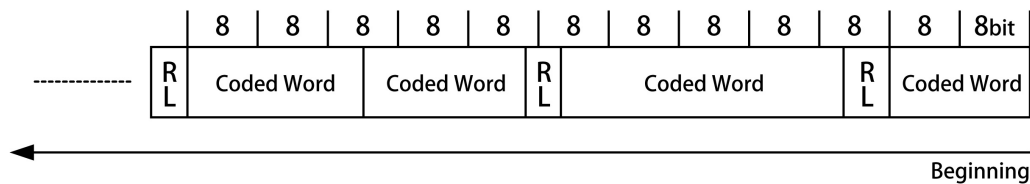

Figure A-4
1. Expand the binary data following the table into the bit-array. The read data is arranged from the right side to the left side in serial, and proceeded from the right side. See Figure A-4.